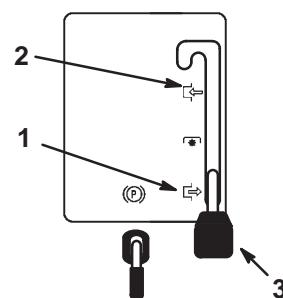

Figure 9
4. Move the PTO to Disengaged (Fig. 9).